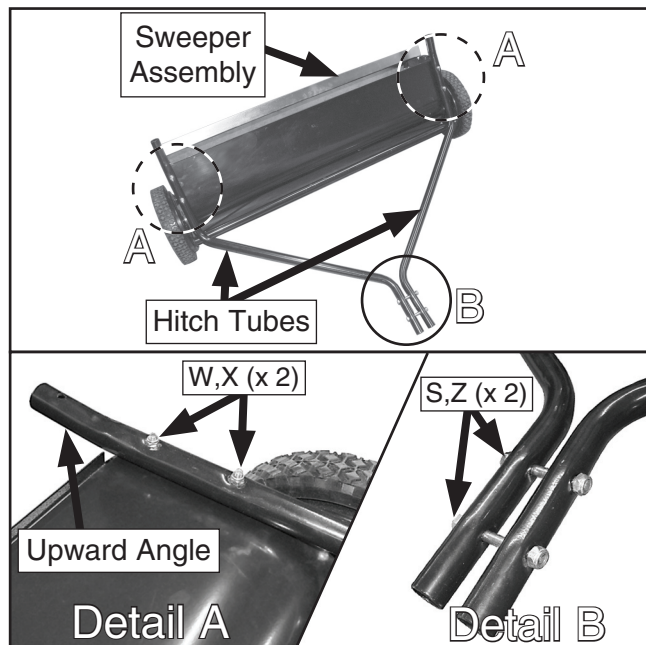

Figure 5. Frame assembly.
1. Attach the hitch tubes to the sweeper assembly as shown in **Figure 5**. Do not tighten the hardware at this time. Refer to the inventory figures on **Page 2** for hardware identification.
Note: Make sure the rear ends of the hitch tubes angle slightly upward, as shown in **Figure 5, Detail A**. If they angle downward, this means the left tube is positioned on the right side and vice-versa. Reverse the placement of the hitch tubes, then attach them.